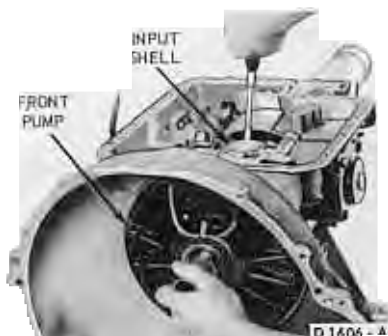

FIG. 26—Removing Front Pump
9. Remove the front pump attaching bolts. Pry the gear train forward as shown in Fig. 26 to remove the pump.